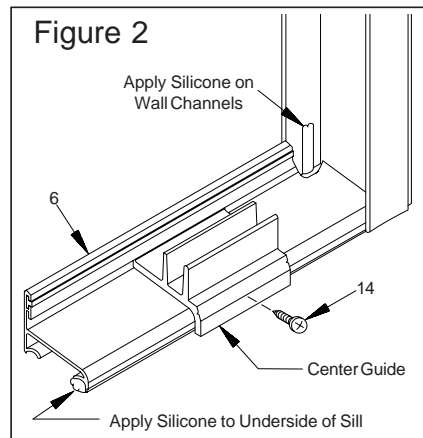

Figure 2
- Remove jamb (1) and drill 3/16" hole and insert plastic screw anchors (2).
- Silicone where the wall meets the rim of the tub to seal bottom corner of jamb. Set jamb (2) in place and secure with #8 x 1 1/2" screws (3). Secure bottom bumper (4a) on showerhead side with bottom jamb screw.
- Measure, on end panel side, from back wall to center of front corner where lines cross. Deduct 3/4" from this measurement and cut curb channel (20) to length. Run a bead of silicon on underside of curb channel and set curb channel in place on center of curb, (Weep holes to inside). Slide post to curb key (22) onto curb channel (20) and move to the wall. Vertical wall channel will key over exposed end.
**6.** Set wall channel (21) onto curb channel, hold plumb and mark screw hole locations. Remove wall channel and drill 3/16" holes and insert plastic anchors (2). Fill curb channel with silicone where curb channel meets wall and set wall channels in place. Secure wall channel using #8 x 1 1/2" SMS (3). Secure header clip (23) to inside leg of wall channel with a #6 x 1/4" screw (25).
**7.** Place glass support blocks (24) in place in curb channel. Set panel (26) in place in curb channel and wall channel. Insert vertical seal vinyl (27) into wall channel on both sides of the panel.
**8.** Insert clip (22) into curb channel and apply a layer of silicone to curb where 90 post will set. Set corner post (19) in place over edge of panel glass and curb clip, hold plumb and insert vertical seal vinyl (27) into post and curb channel on both sides of panel glass.
**9.** Measure from inside of wall jamb to inside of 90 post and use this measurement to cut sill (6) to length. Run a bead of silicone full length to underside of sill and apply silicone in corners where wall jamb and corner post meet curb and press guide firmly into place on curb (See Figure 2).
**10.** Assemble header (8) using 90 clips (28) and #6 x 3/8" SMS (14). Measure from both walls to outside corner of corner post (plumb in both directions) and add 3/16" to this measurement for header length. Cut header to length and set in place over jamb (1), corner post (19) and wall channel (21). Secure header to jamb and corner post from inside of shower and to clip (23) attached to wall channel with #6 x 3/8" SMS.
**11.** To set slider glass in place, hold inside slider panel (16) inside of tub or shower pan, insert rollers up into header and lower into place. Next, insert lower end of outside slider (17) in front of inside slider